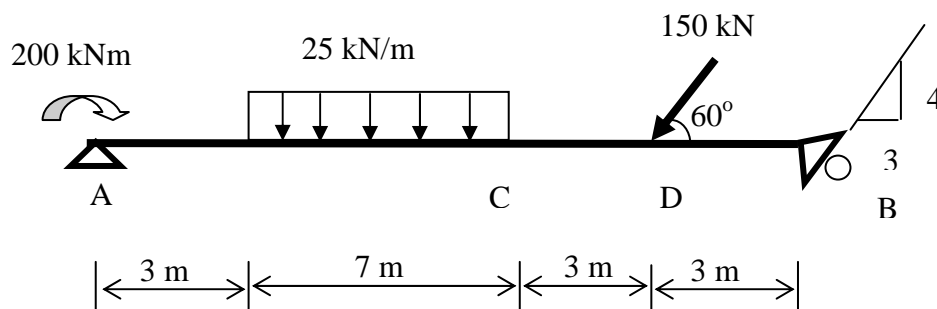

Figure 3(c)/Rajah 3(c)
- (b) Classify each of the structures shown in **Figure 3(a – d)** as statically determinate or indeterminate. If the structure is statically indeterminate externally, then determine the degree of external indeterminacy.
(c) A simply supported beam is shown in **Figure 3(c)**. Assume the self weight of the beam is negligible.